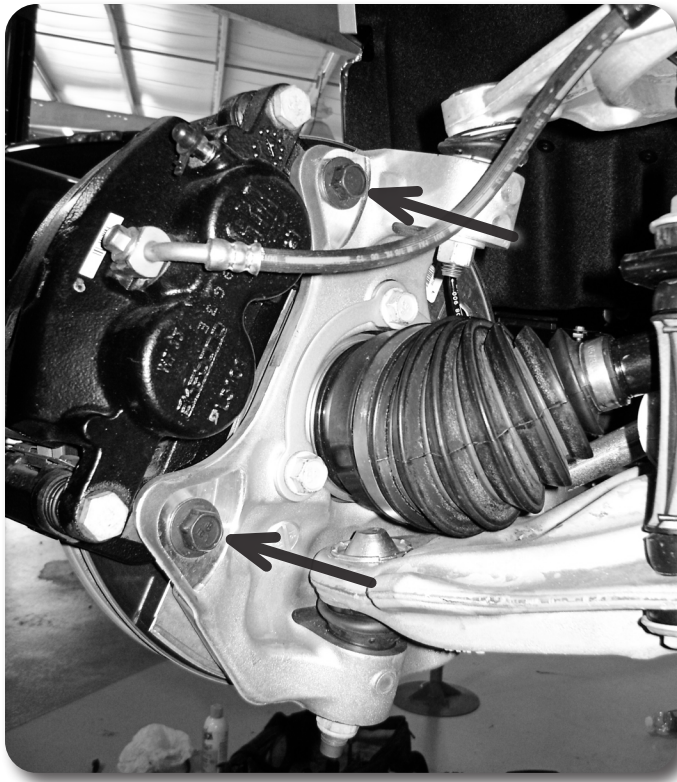

Figure 4
11. Remove the two brake caliper mount bolts and remove the caliper assembly from the knuckle **Figure 4**. Hang the caliper securely out of the way. **DO NOT** hang the caliper by the brake hose. Save caliper bolts.